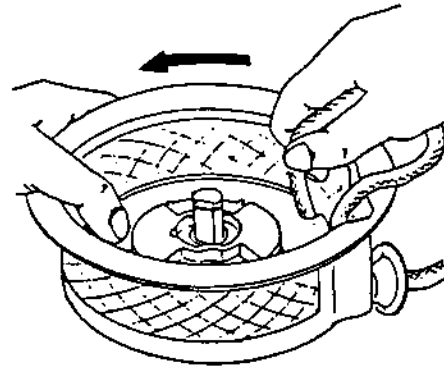

Fig. 73
- 3) Before putting the reel in the starter case, wind the starter rope in the arrowhead direction as shown in Fig. 73, and at 2.5 windings take out the rope from the reel notch. Set the reel hook to the inner end of the spring, and put the reel in the starter case.
Then, hold the starter rope as shown in Fig. 73, and turn the reel 4 times in the arrowhead direction. When wound up, firmly press the reel not to allow reverse turn, and pull the starting knob. Then, pull out from the starter case the starter rope utilized for winding, and slowly return the starting knob.